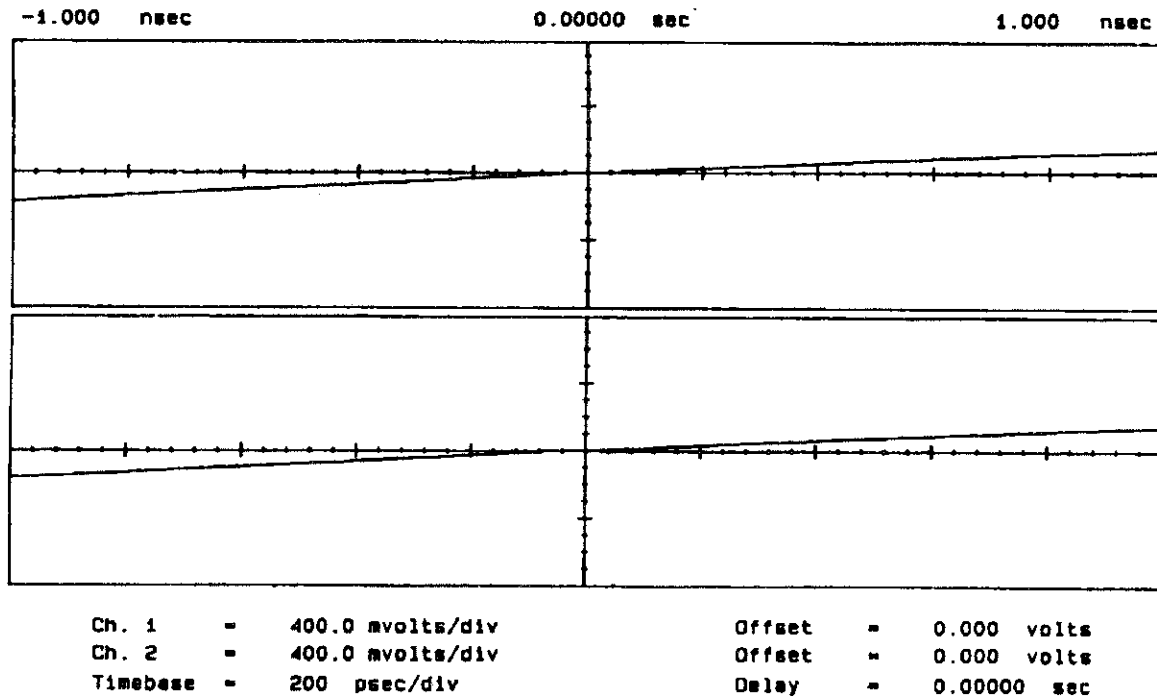

Figure 3-6. Zero Skew Between Channel 1 & 2 Waveform
18. Rotate the 54100A RPG (rotary knob) to adjust skew. Continue adjusting until the rising edge of channel 2 input signal also crosses the X-axis at the grid origin. *This zeroes the skew that existed between the input channels of the 54100A Oscilloscope. See Figure 3-6.*